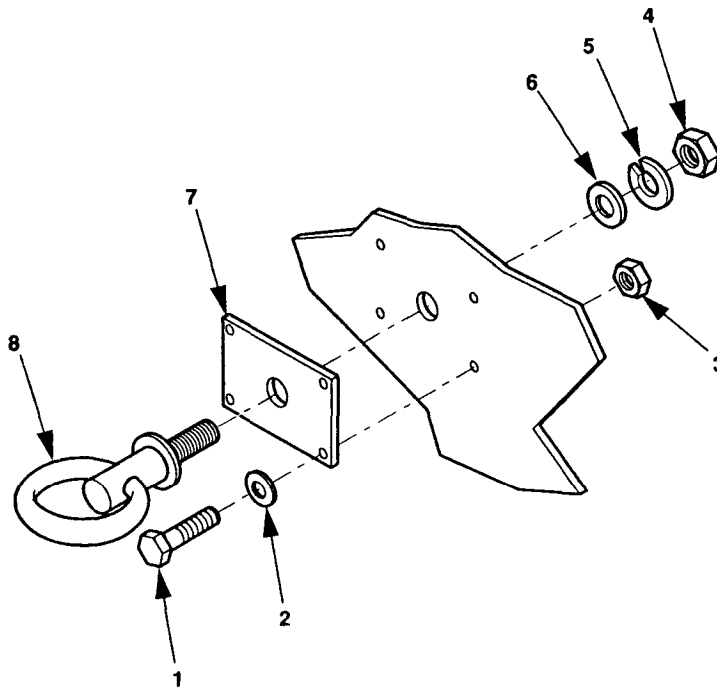

Figure 4-21. Replace Power Plant Trailer Lifting Ring.
1. Remove self-locking nuts (3, figure 4-21), flat washers (2), screws (1) and mounting plate (7); AN/MJQ-37 and AN/MJQ-38 only.